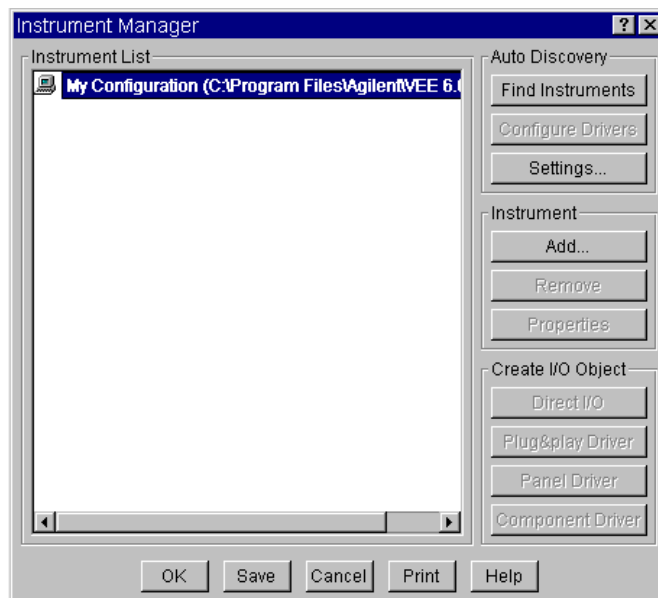

Figure 3-6. The Instrument Manager Box
1. Select I/O ⇒ Instrument Manager... Move the dialog box to the upper-left work area by clicking and dragging its title bar, as shown in Figure 3-6.